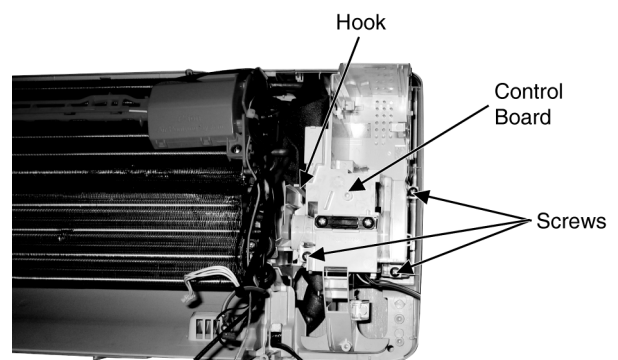

Fig. 9
- Release the 3 screws (Fig. 9)
- By pressing down the hook at the left, you will be able to remove the Control Board. (Fig. 9)